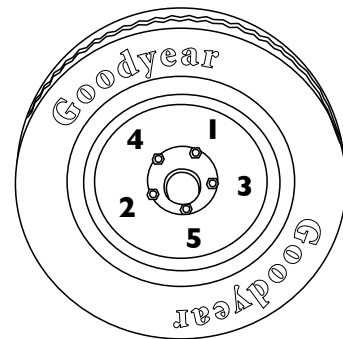

Fig 22. Wheel Lug Nuts Tightening Sequence
2. Torque all lug nuts in sequence (Figure 22). **DO NOT** torque the wheel lug nuts all the way down.